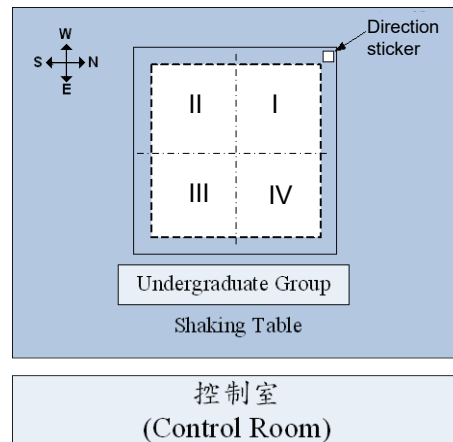

Figure 4. The orientation of the model fixed on the shaking table
- 7.7 The side of the base board marked with a sticker is where the model should be built on. In addition, when mounting the model onto the shaking table, the sticker should be on the northwest corner (shown as Fig. 4). If there is any question about the relative positions or directions shown in Fig. 4, please ask the staff or judges for assistance.